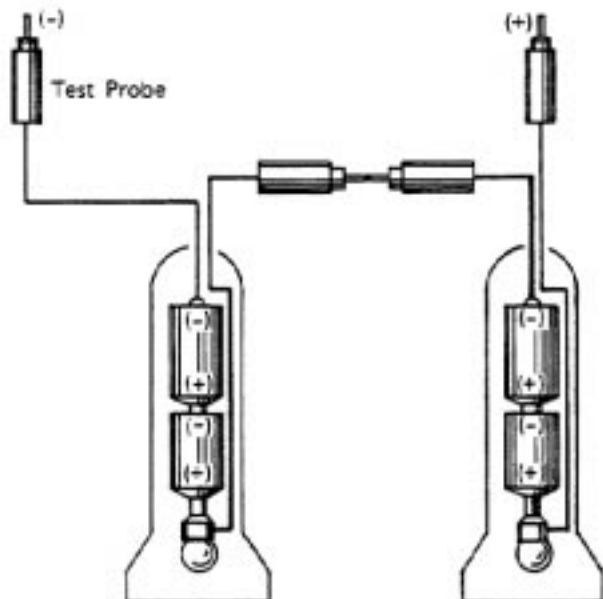

Fig. 14 - Connecting Two Battery Test Lights In Series 21080
- a. Connect positive lead of one battery test light to negative lead of the other test light, Fig. 14. This arrangement will supply the full five volts necessary to check these semiconductors.